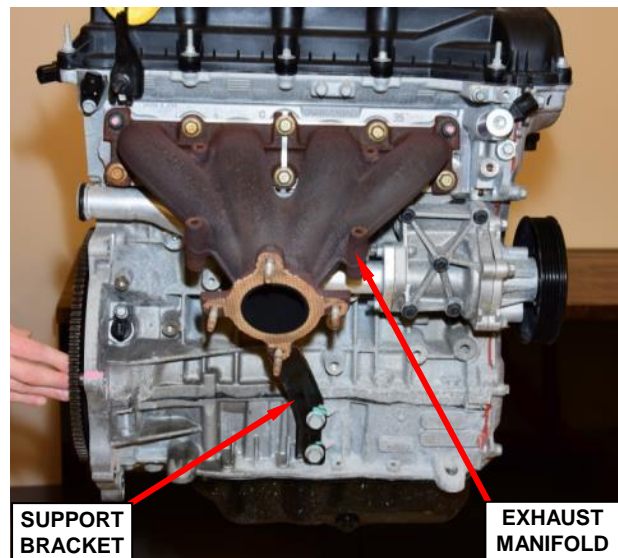

Figure 55 – Exhaust Manifold
- d. Remove and save the two bolts and exhaust manifold support bracket (Figure 55).
- e. Remove and discard the two nuts and six bolts fastening the exhaust manifold to the engine head (Figure 55).
- b. Position the exhaust manifold in place then use two new nuts and six new bolts to fasten the exhaust manifold to the cylinder head (Figure 55).
- d. Install the exhaust manifold support bracket and two bolts (Figure 55). Tighten the bolts to 18 ft. lbs. (24 N·m).